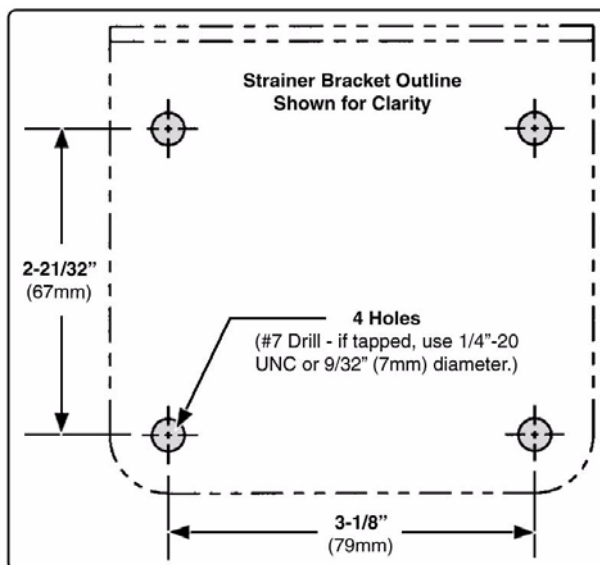

Figure 3-15: In-Line Strainer Mounting Bracket Layout
2. Mark 4 holes to mount the foam strainer bracket. Drill tapped holes for 1/4"-20 UNC screws (#7 drill for 1/4"-20 UNC tap)...or...drill clearance holes for 9/32" (7 mm) for 1/4"-20 UNC screws. (See Figure 3-15: "In-Line Strainer Mounting Bracket Layout.")